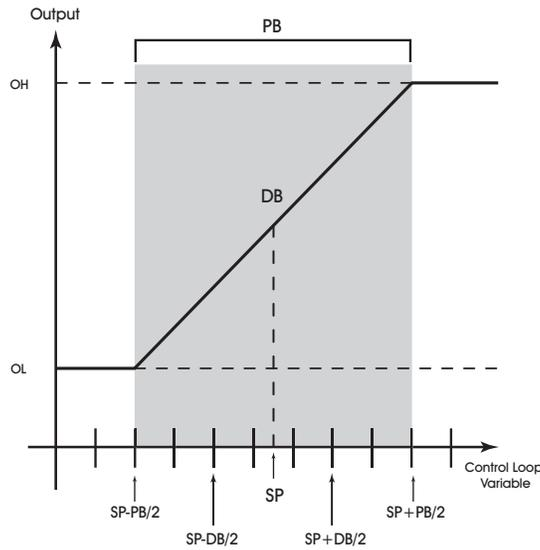
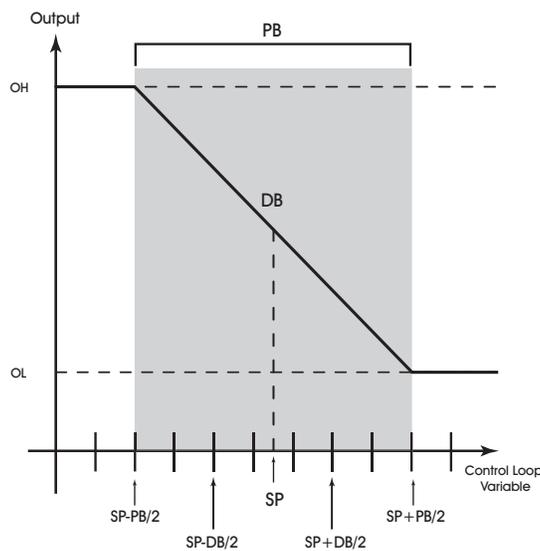

Figure 7-1: Proportional Band for Normal Acting Control ( $SG = 0$ )
Figure 7-2: Proportional Band for Reverse Acting Control ( $SG = 1$ )
To determine **(PB) Proportional Control Band**, first decide how closely the GPC must control to the setpoint. For instance, if the setpoint is 72°F, then an acceptable control range might be within two degrees of the setpoint. This control range can be expressed as a band centered on the setpoint: from 70° to 74°, or 4 degrees *proportional band*. Refer to Figure 7-1 and Figure 7-2.
For normal acting control loops (see Figure 7-1), the **(PO) Percent Output** attribute is set to maximum output when the input variable equals the setpoint plus half of the proportional band (**CS + PB/2**). The percent output is set to minimum output when the input variable equals the setpoint minus half of the proportional band (**(CS) Calculated Control Setpoint - (PB) Proportional Control Band / 2**). These associations are reversed for reverse acting control loops. **PO** will be midway between minimum and maximum output when the measured variable is equal to the control setpoint (**CS) Calculated Control Setpoint**. The opposite would be true for reverse acting control loop as shown in Figure 7-2.
To determine **(PB) Proportional Control Band**, first decide how closely the GPC must control to the setpoint. For instance, if the setpoint is 72°F, then an acceptable control range might be within two degrees of the setpoint. This control range can be expressed as a band centered on the setpoint: from 70° to 74°, or 4 degrees—the *proportional band*. Refer to Figure 7-1 and Figure 7-2.
For normal acting control loops (see Figure 7-1), the **(PO) Percent Output** attribute is set to maximum output when the input variable equals the setpoint plus half of the proportional band (**(CS) Calculated Control Setpoint + (PB) Proportional Control Band/2**). The percent output is set to minimum output when the input variable equals the setpoint minus half of the proportional band (**(CS) Calculated Control Setpoint - (PB) Proportional Control Band/2**). These associations are reversed for reverse acting control loops. **(PO) Percent Output** will be midway between minimum and maximum output when the measured variable is equal to the control setpoint **(CS) Calculated Control Setpoint**. The opposite would be true for reverse acting control loop as shown in Figure 7-2.